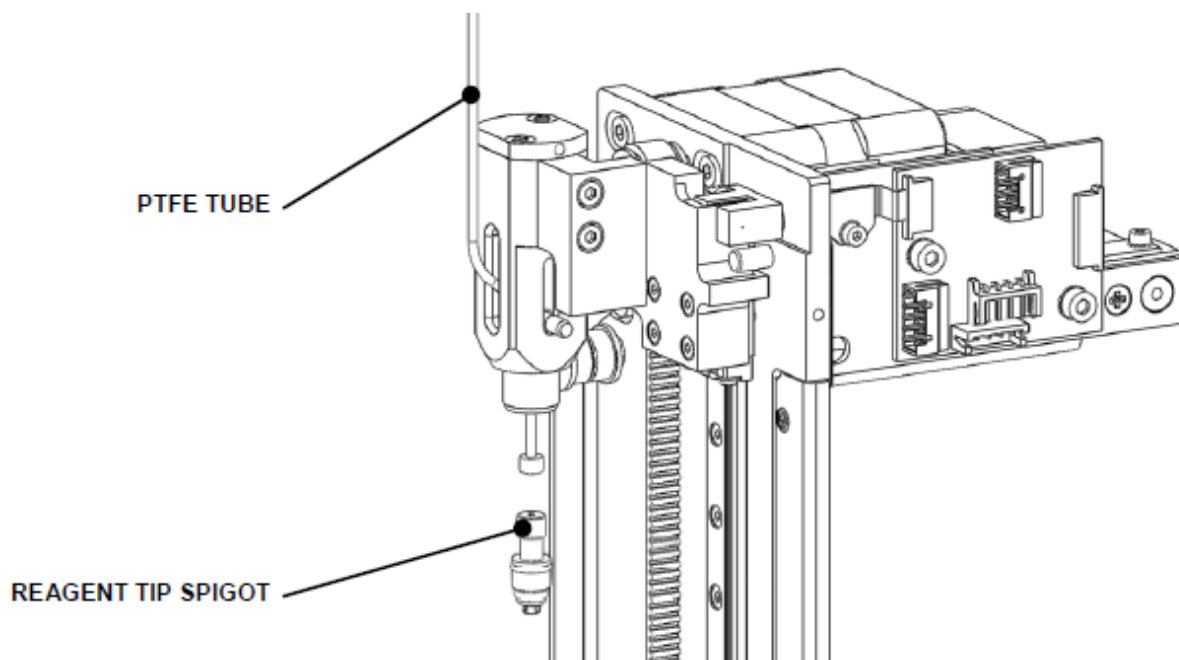

Figure O-10: Threading the Teflon Tube
3. Thread the PTFE Tube into the Reagent Pipettor Spigot Slider Assembly from underneath and let it come out from the front slot. Pull the tube till the Type P Ferrule sits in the cavity provided in the Reagent Pipettor Spigot Slider Assembly and secure it by screwing the Reagent Tip Spigot using Loctite 242 (Figure O-10).